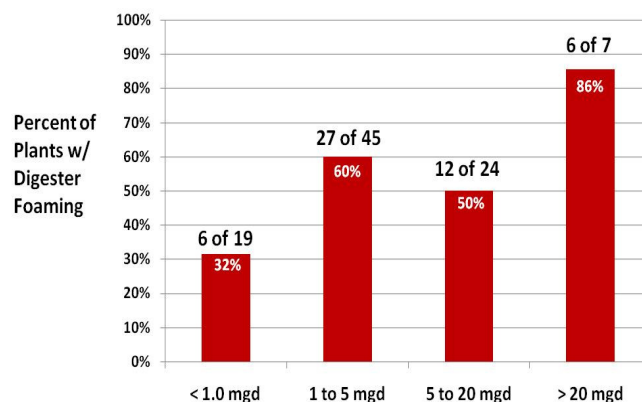

Figure 7: Foaming vs. WWTP capacity
- Nearly all of the larger WWTPs (> 20 mgd) experienced foaming problems (6 of 7 plants), whereas only 6 of 19 small plants (< 1 mgd) experienced foaming problems [Figure 7].